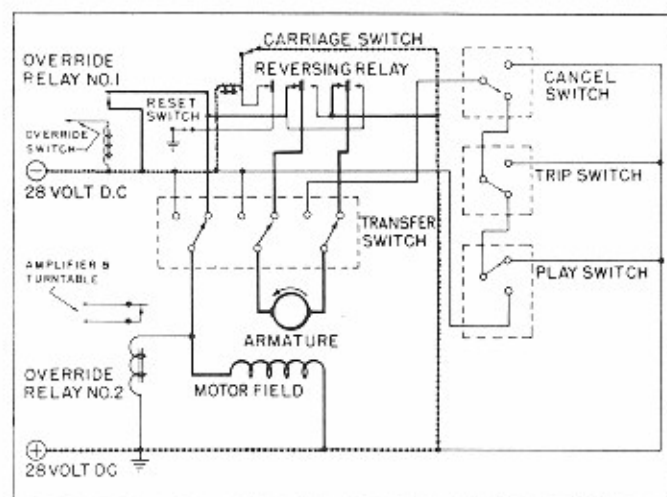
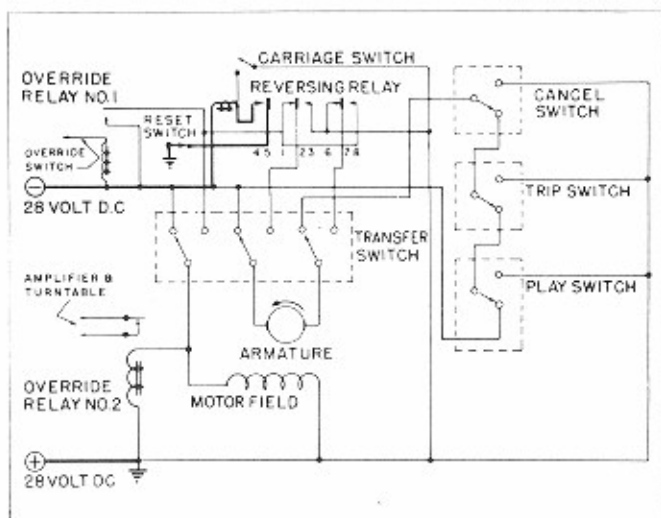

Fig. 48 PHASE 3 - CARRIAGE SWITCH AND REVERSING RELAY
Fig. 52 PHASE 7 - REVERSING RELAY AND RESET CIRCUIT
c. Phase 3 -- Carriage Switch and Reversing Relay. (Fig. 48)
pole changer for the armature of the changer motor. As shown in heavy lines (Fig. 48), this pole changing function is the only electrical change effecting the mechanism.
g. Phase 7 -- Reversing Relay and Re-set Circuit. (Fig. 52)
(1) Electrical Condition -- Phase 7.
As shown in heavy lines, Figure 52, since its initial circuit was established in phase 3, Figure 48, the reversing relay has been held interlocked by its contacts 5 and 4, and the reset switch. Within four or five degrees following the play switch action the reset switch will be opened by its main cam lobe and the reversing relay will be released preparatory to starting a new cycle.